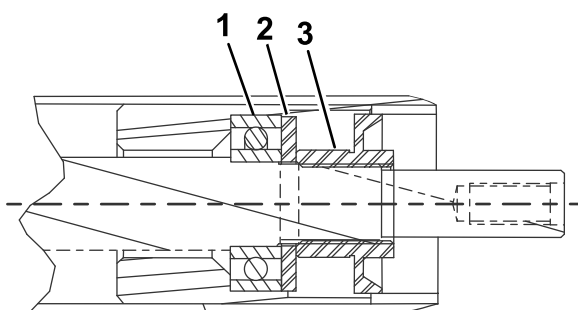

Figure 1
3. Install a new bearing, the black washer, and the nut removed in step 2 onto each end of the roller (Figure 1).
4. Tighten the nuts until the bearings are seated on each end of the roller (Figure 1).
5. Remove the nut and black washer from each end of roller (Figure 1).